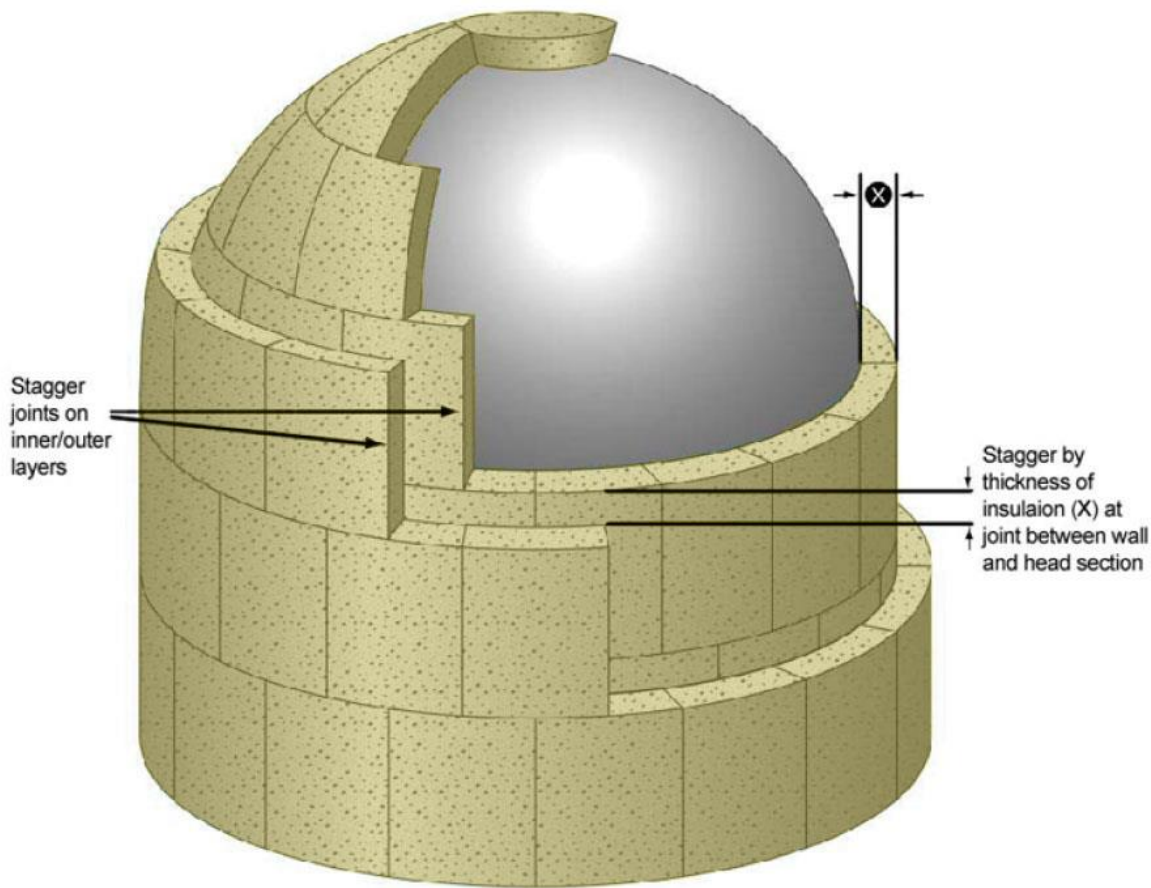

**Figure 7**
- 4.1.17 On factory applied Saranex Vapor Retarder Film, lap joint to be sealed with SSL tape. All vapor retarder surfaces should be cleaned and free of dust, grease, oil, etc. before application of the SSL tape to ensure good adhesion between the tape and vapor retarder. Refer to Figure 7 in Appendix. For other types of factory applied vapor retarders, consult manufacturer's recommendations on installation.